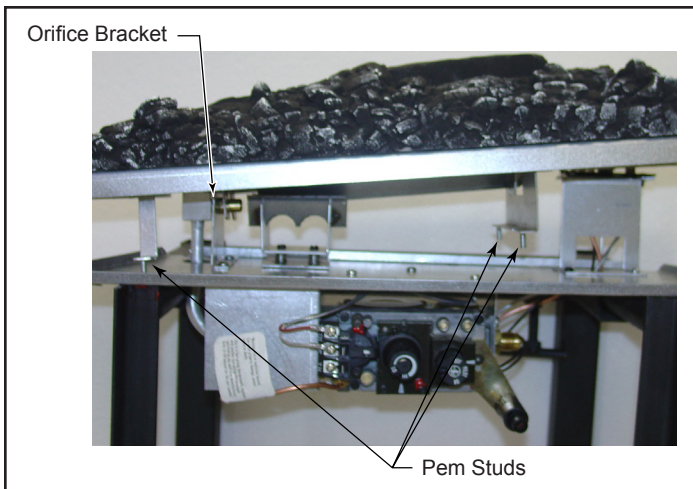

Figure 78 - Tilt ember bed slightly to correctly place venturi on air shutter.
2. Carefully remove ember bed by tilting the right side up and lifting out toward the right side of the unit, Figure 78.
1. Replace burner making sure venturi on bottom of ember bed aligns with orifice and is seated properly on air shutter assembly, Figure 78. Make sure burner is slid into place at a slight angle and opposite to how it was removed. When burner is slid into place, the three (3) pem studs should slide down through clearance holes into the bottom of the control panel.